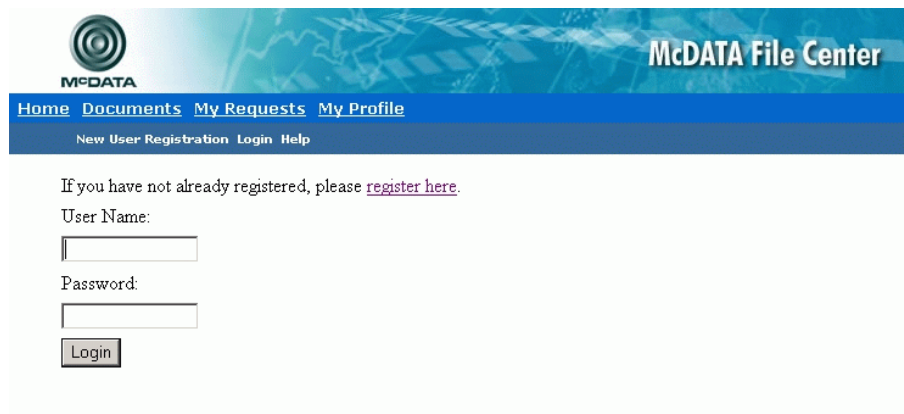

Figure 4-41 McDATA File Center (Login Page)
2. Select (click) the *Login* option at the top of the home page. The *Login* page displays (Figure 4-41).